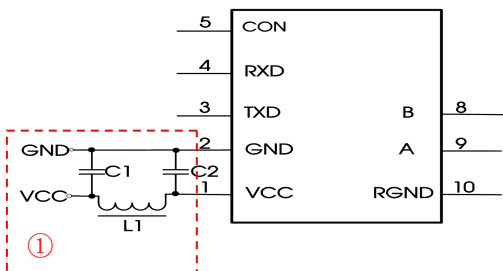

Fig. 3
RE	CISPR32/EN55032 CLASS A (see Fig.3-①)